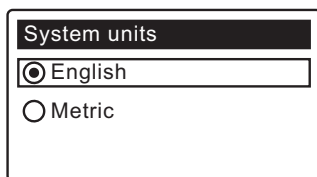

FIG. 17
3. **SYSTEM UNITS** If the desired system already has a black dot next to it (See Figure 17), go to Step 4. Otherwise, press the DOWN (▼) or UP (▲) buttons to scroll to the desired system, then press the SELECT (○) button to choose it.